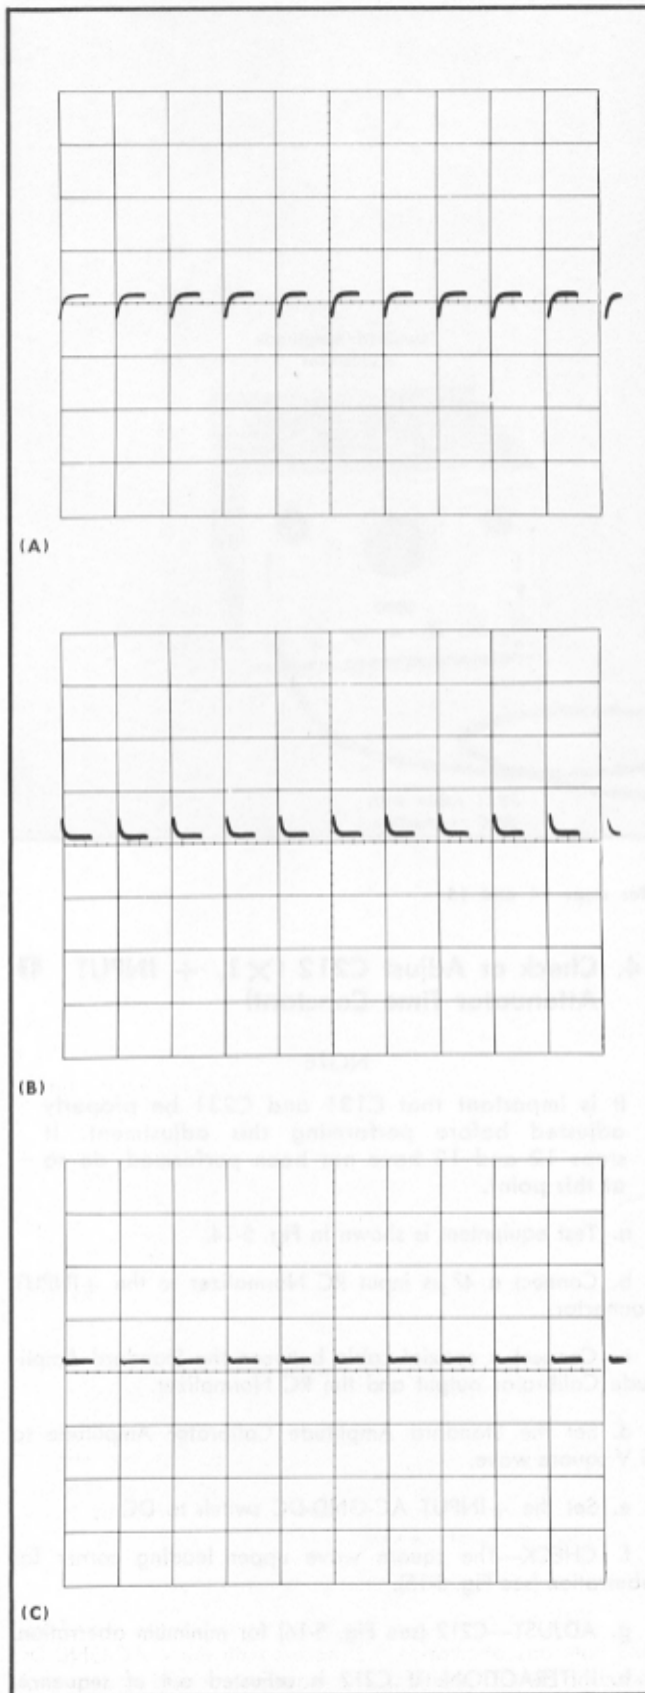

Fig. 5-12. Typical waveforms showing (A) and (B) C131 misadjusted and (C) C131 correctly adjusted.
- g. CHECK—The upper leading corner of the waveform, and note any aberration that occurs with the —AC-GND-DC switch in the DC position. The waveform should appear similar to the one in Fig. 5-12.